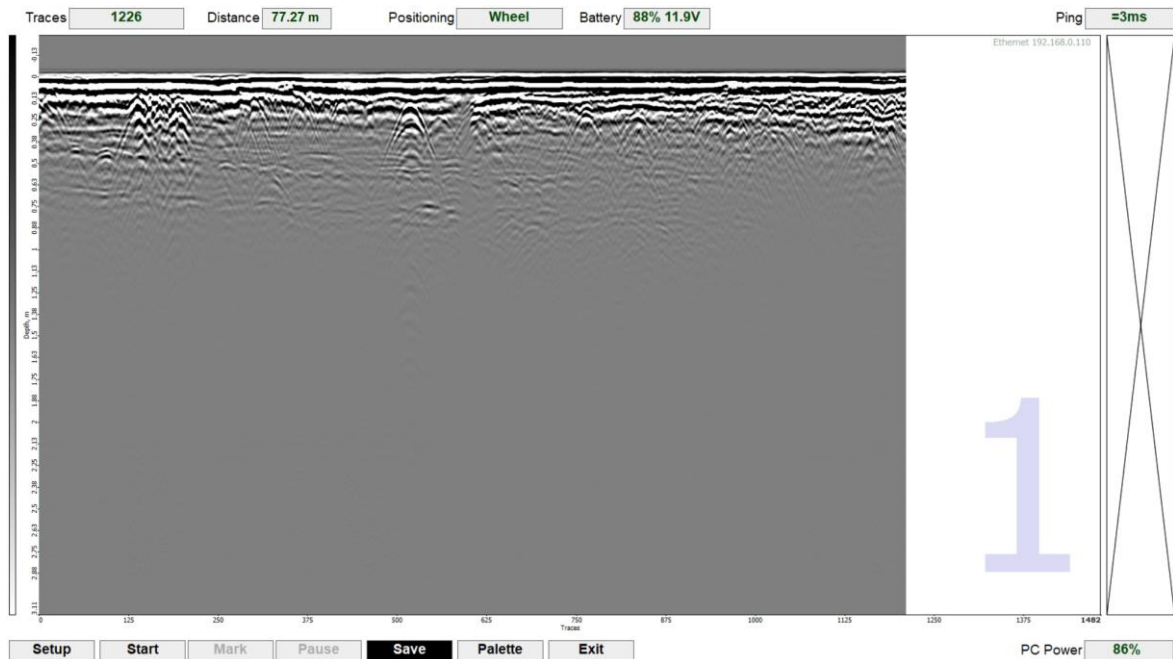

Fig. 9.1b. Data acquisition mode with horizontal toolbar
- **Show channel labels** – enables/disables semitransparent channel labels visibility on the foreground in double channel or circle data acquisition mode (Fig. 9.1b.).
Fig. 9.1ba. Double channel GPR settings.